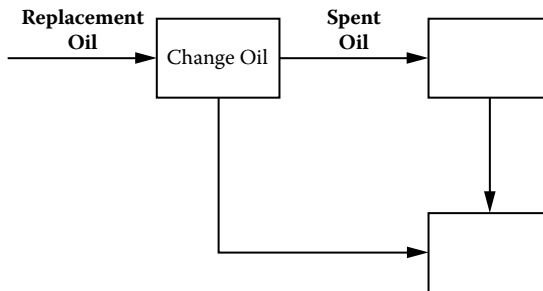

Figure 5.6 General left-to-right “conversion” sequence.
3. Keep general left-to-right sequence of converting inputs into outputs (Figure 5.6).